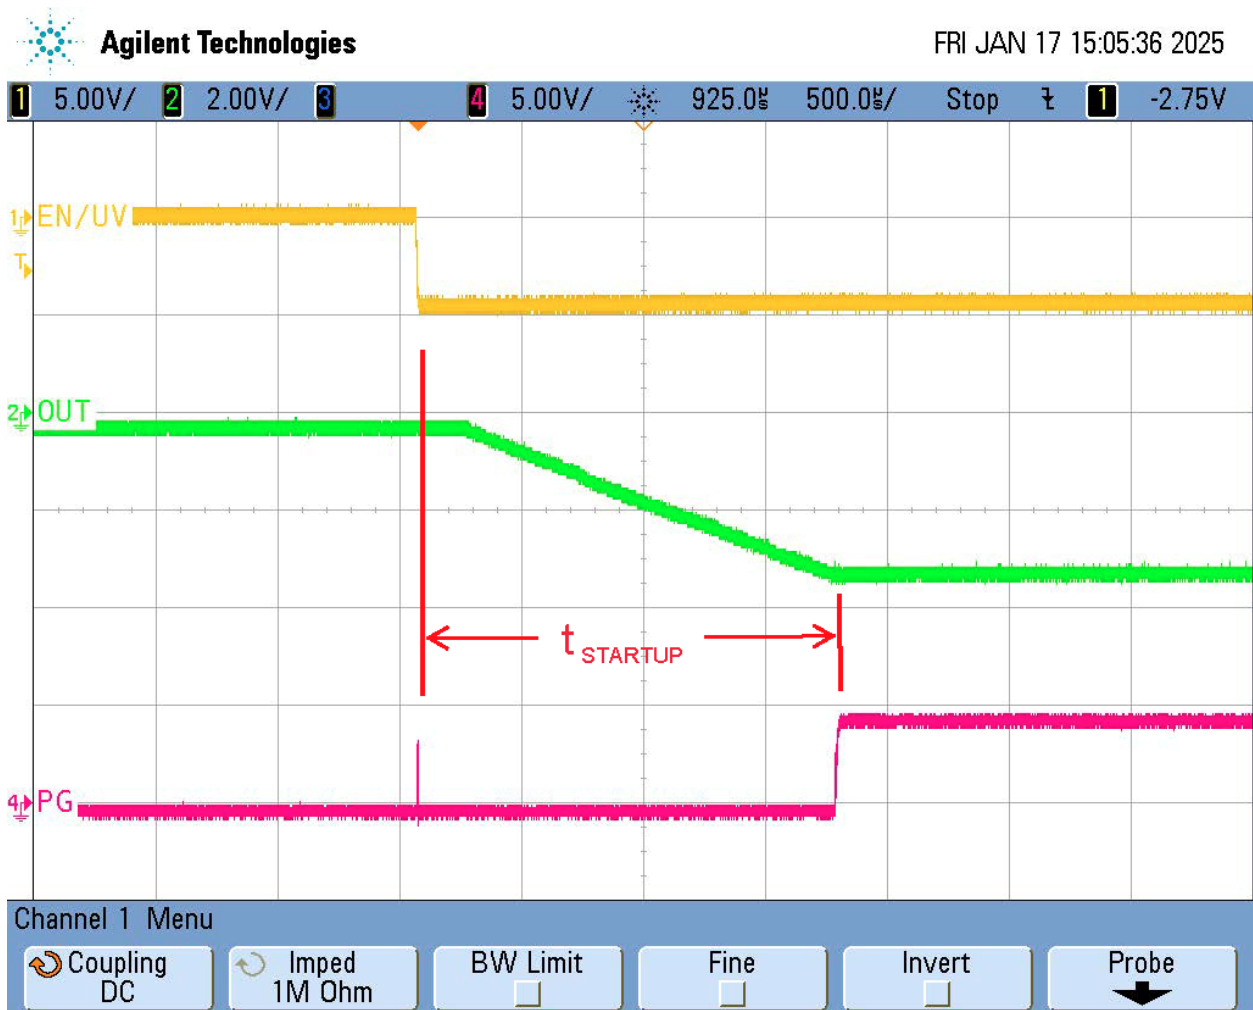
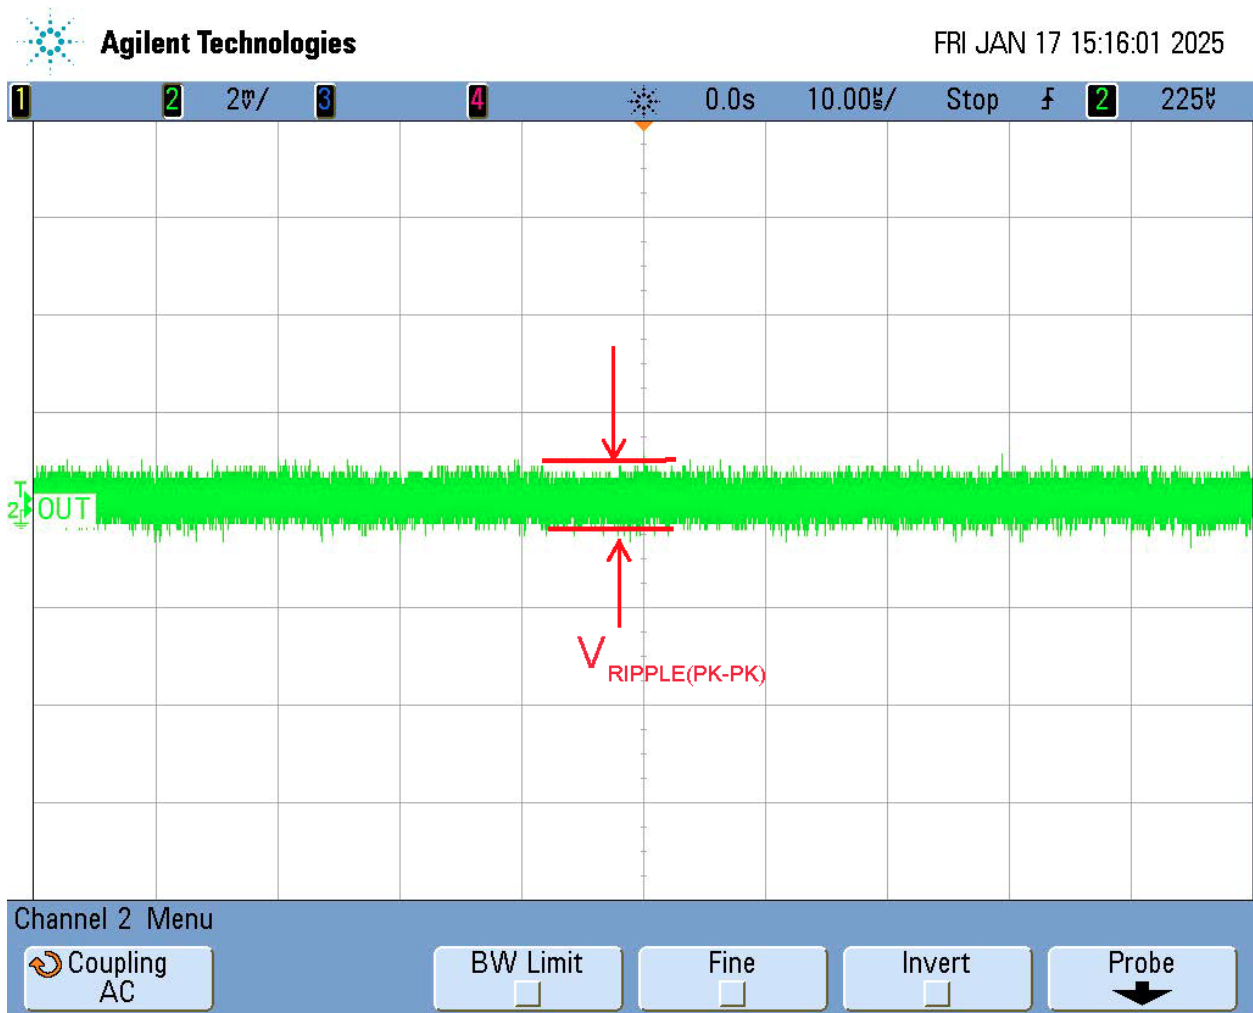

Figure 1: Startup Time
Figure 2: VOUT Ripple Voltage
4. Connect 5V to VEXT. Remove the jumper wire between the EN/UV terminal and ground terminal while observing EN/UV, VOUT and PG with an oscilloscope. Measure the startup time using the EN/UV and PG signals according to Figure 1. Then use the VOUT NOISE MONITOR BNC connector as the input to the oscilloscope and measure the VOUT ripple voltage as shown in Figure 2.